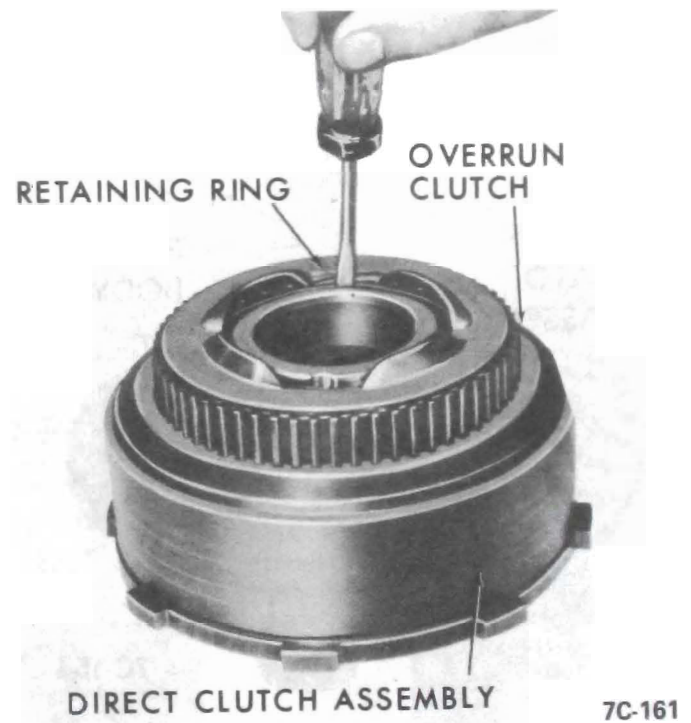

Figure 7C-163
2. Remove intermediate clutch overrun outer race. See Figure 7C-164.